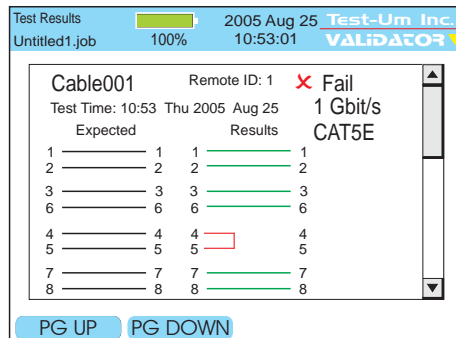
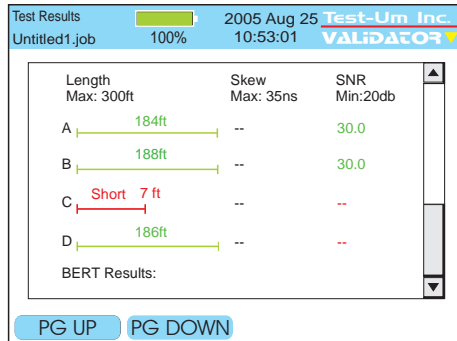

Figure 4.3 Test Results Short on Pair 4 and 5
Figure 4.4 Test Results Short Second Page
**Short** - The pair has a low resistance connection between wire pairs or the shield. The wire pairs involved and the distance to the short in feet or meters displays in red on the wiremap screen. Press the PG DOWN soft key (F2) to view the detailed test results. (See Figure 4.3 & Figure 4.4)